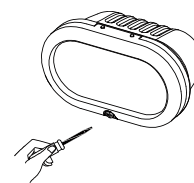

FIGURE 7
- (1) Do not touch the light while it is in use or still hot. Allow it to cool off (about 5 minutes) before touching it.
- (2) Do not use halogen bulb rated higher than 150/300 watts.
- (3) Disconnect the power cord or wall switch and then use a cross head screwdriver, loose the screw at the bottom edge of the front surround (FIGURE 7).